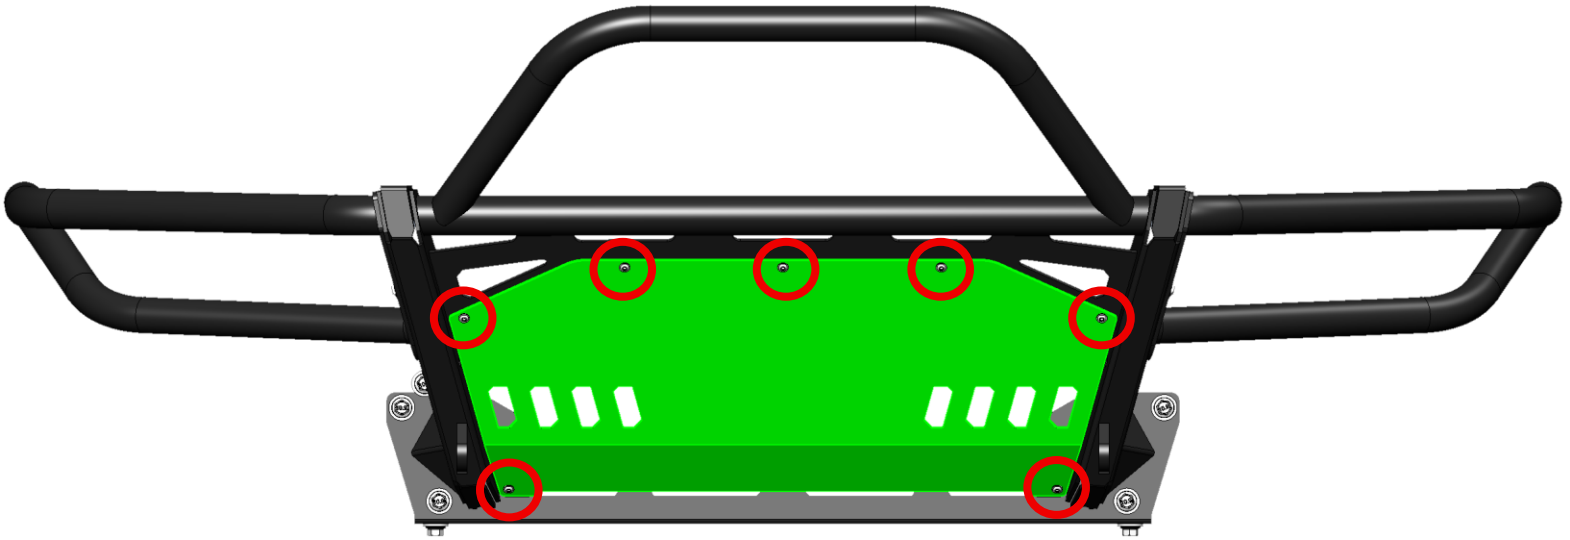

Figure 19
25. If you chose the Radiator Block Off Plate, locate the Plate and (7) seven M6 x 1.0 Button Head Screws, 14mm. Position the Radiator Plate onto the Bumper as shown and secure with the M6 Button Head Screws. If you are using the Winch Cradle, skip to *Step 26.* *Figure 19.*